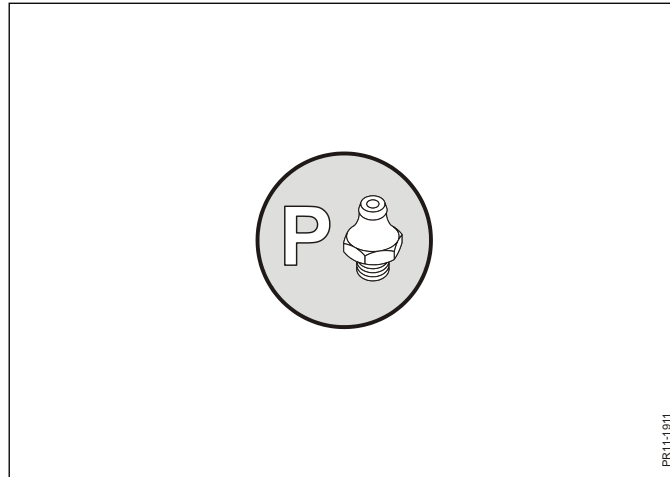

Fig. 8-2
**Fig. 8-2** The grease points connected are indicated using this symbol in the following figures. Lubrication must be performed individually at the interval specified if the machine has not been fitted with a lubrication block.